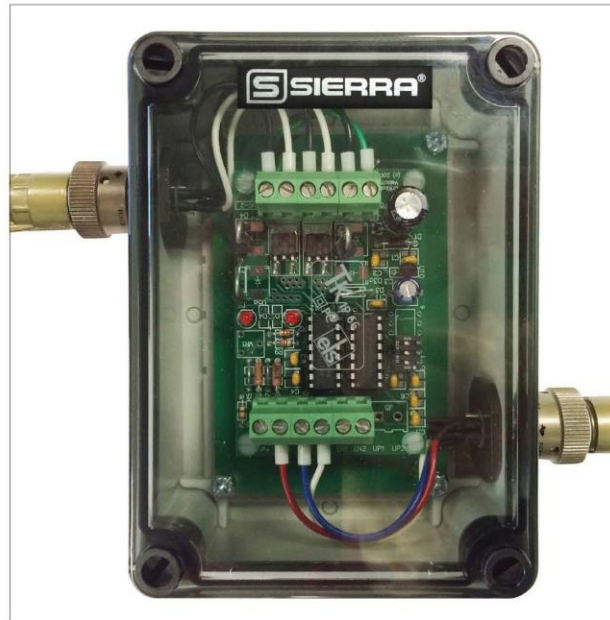

Figure 2a. NEMA 4X Enclosure for Control Circuit.
- Valve Control Circuit (PCA with NEMA 4X enclosure): Dual solenoid valve controller with either 0-5 VDC, 4-20 mA setpoint control or a 0-5 VDC potentiometer setpoint control (see figure 2a).